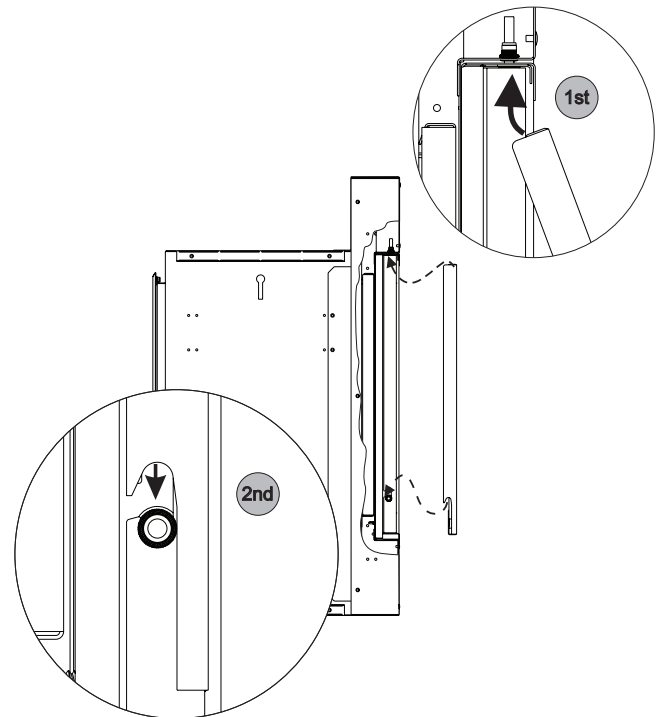

Figure 15
4. Insert the screen assembly into the top of the outer glass frame. Bring the bottom of the screen assembly against the face. Lower the screen assembly to catch the shoulder screw on the side of the glass. See Figure 15.